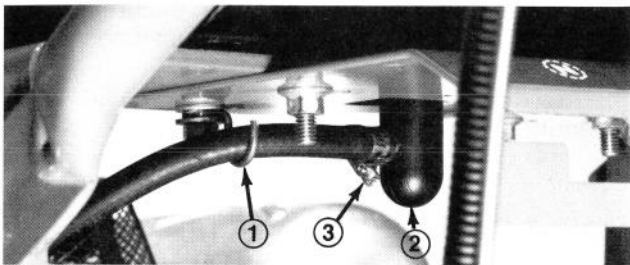

Figure 9
5. Route fuel line thru hose clip and install onto fuel tank fitting with hose clamp (Fig. 9). Hose clip may be rotated to avoid kinking in fuel line.